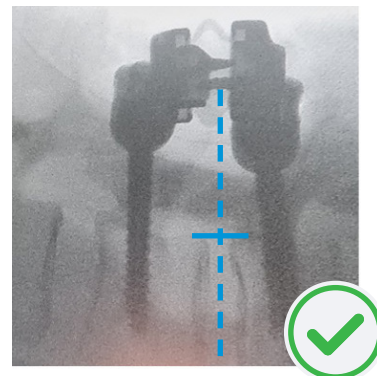

Figure 44d: Lateral view of TOPS Motion Implant placed parallel to the disc
- ii. Confirm that the TOPS Motion Implant is parallel to the disc. If the implant is leaning forward or backward relative to the disc, you need to adjust the pair of superior or inferior screws to achieve correct positioning (Figure 44d).